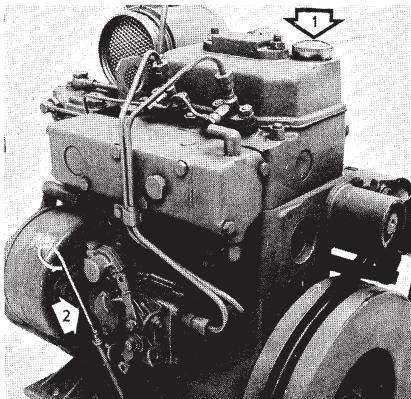

Fig. 14. Checking engine oil level
**Check the oil level in the engine daily before starting for the first time.** The dipstick is located on the starboard side of the engine and has upper and lower markings. The oil level must never be allowed to go down below the lower mark and it should not be above the upper mark either since this can result in abnormally high oil consumption. To fill with oil unscrew the rocker arm casing (see Fig. 14). Concerning the oil quality and viscosity, see point 3.